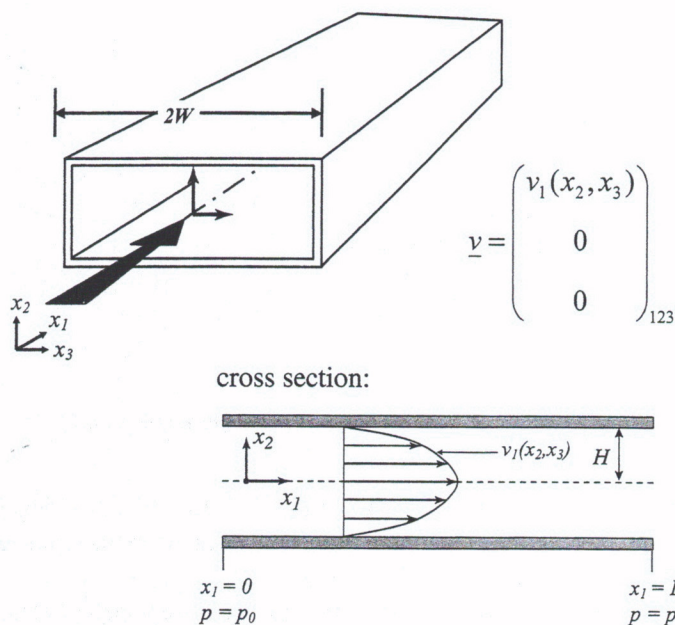

Figure 5.37
30. How do the velocity components simplify for the unidirectional flow of water through a rectangular channel (Figure 5.37)? For a Newtonian fluid, how does the extra-stress tensor simplify as a result of this?